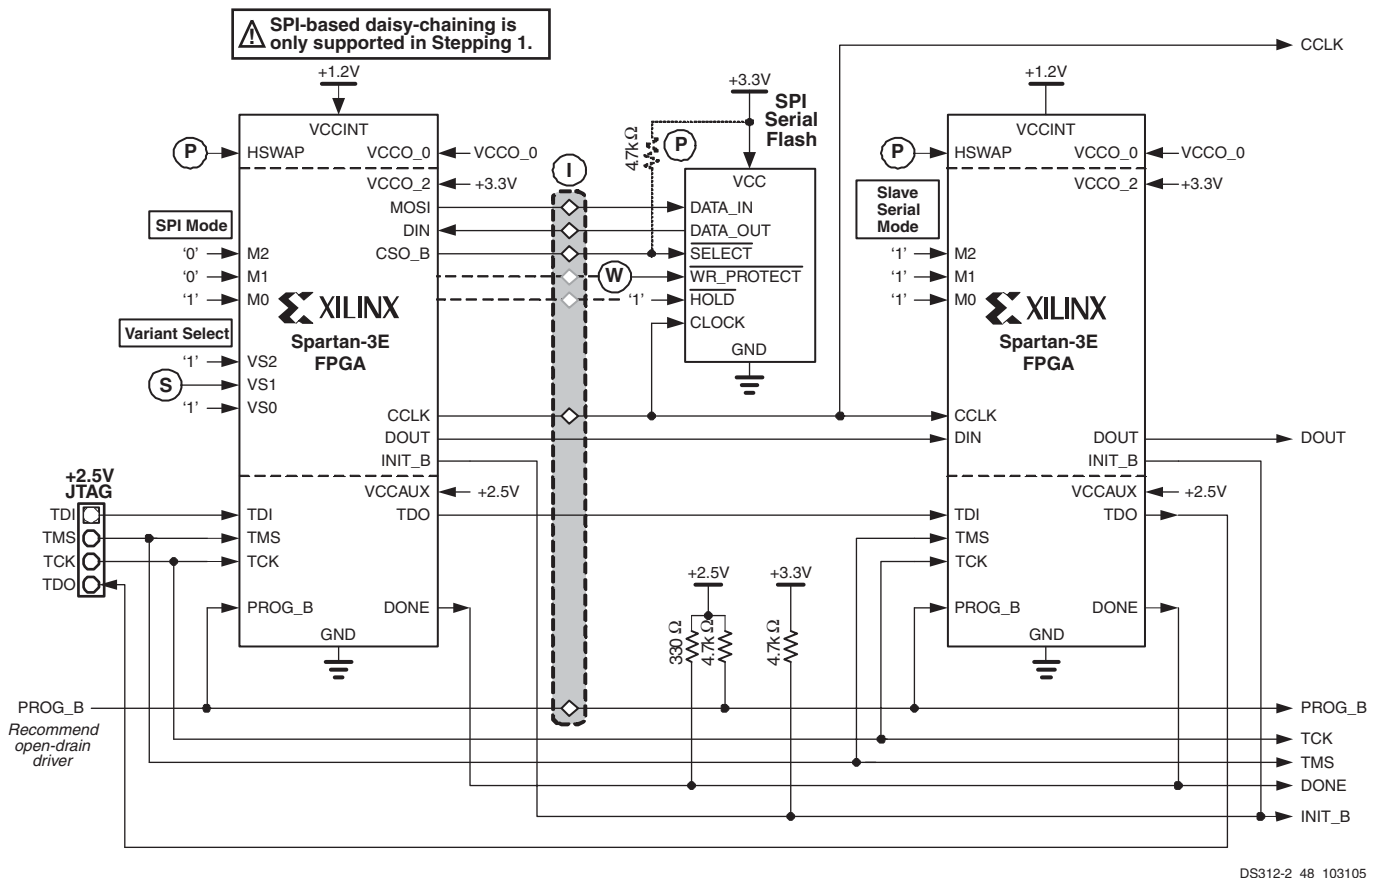

Figure 58: Daisy-Chaining from SPI Flash Mode (Stepping 1 and Later)
If the application requires multiple FPGAs with different configurations, then configure the FPGAs using a daisy chain, as shown in Figure 58. Daisy-chaining from a single SPI serial Flash PROM is supported in Stepping 1 and later devices. It is not supported in Stepping 0 or engineering samples (ES). Use SPI Flash mode (M[2:0] = <0:0:1>) for the FPGA connected to the Platform Flash PROM and Slave Serial mode (M[2:0] = <1:1:1>) for all other FPGAs in the daisy-chain. After the master FPGA—the FPGA on the left in the diagram—finishes loading its configuration data from the SPI Flash PROM, the master device uses its DOUT output pin to supply data to the next device in the daisy-chain, on the falling CCLK edge.
In-system programming support is available from some third-party PROM programmers using a socket adapter with attached wires. To gain access to the SPI Flash signals, drive the FPGA's PROG_B input Low with an open-drain driver. This action places all FPGA I/O pins, including those attached to the SPI Flash, in high-impedance (Hi-Z). If the HSWAP input is Low, the I/Os have pull-up resistors to the V_{CCO} input on their respective I/O bank. The external programming hardware then has direct access to the SPI Flash pins. The programming access points are highlighted in the gray box in Figure 54, Figure 55, and Figure 58.